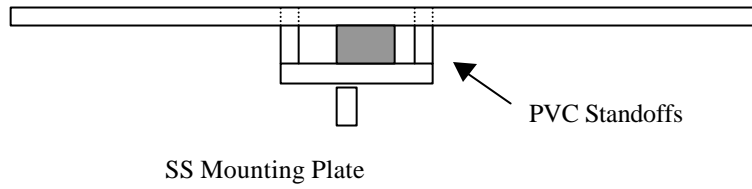

Figure 3.7 : Cross Sensor Bars
28. Typically it is easier to fit all the sensors to the sensor pole prior to fitting the sensor pole to the station (see figure 3.6 for sensor layout). On the shore, first slide the direct communication box down the pole, secondly slide the solar panel frame down the pole and secure with the through bolt. The solar panel frame consists of 1 PVC top bar and 2 stainless steel lower bars. The solar panels slide into the large nuts and bolts on the top & bottom bars and then secured by tightening the bolts. Position the communication box under the solar panel fame and secure with U-bolts. Next, fit and position the solar radiation shield to the pole above the solar panel as to give the least shadow to the solar panels. Assemble the top cross sensor bars as per Figure 3.7. Continue by fitting the wind and solar radiation sensors to the top cross bars. The wind and small SW radiation sensors are held in place by the grub screws. The long net radiation sensor must be fitted with the bubble level facing up) and bolt to top of pole (the top cross arm can be positioned at many angles to reduce shadow on the solar panels and to help prevent birds perching directly above the solar panels. Next insert the humidity sensors into the radiation shield and secure with the pressure flange. Finally, fit the lake antenna to the sensor arm by holding the base through the antenna frame and screwing the antenna onto it. Note that the antenna base should be assembled correctly to achieve maximum performance. Cut-off cable ties can be used on the sensor arms to prevent birds from perching on them and fouling the solar panels, but assure that they do not interfere with the wind sensors or cast shadows on the radiation sensors. All sensor cables are run down the sensor pole and the black joining moldings are secured under the solar panels with cable ties.
1. If the antenna needs to be mounted outside the building to achieve sufficient line-of-site and height: Mount the antenna securely to the roof of the intermediate station building such that it has a clear line of sight to the lake station and has sufficient height to cover the required range. Note that the antenna base should be assembled correctly to achieve maximum performance (see Figure 3.7).